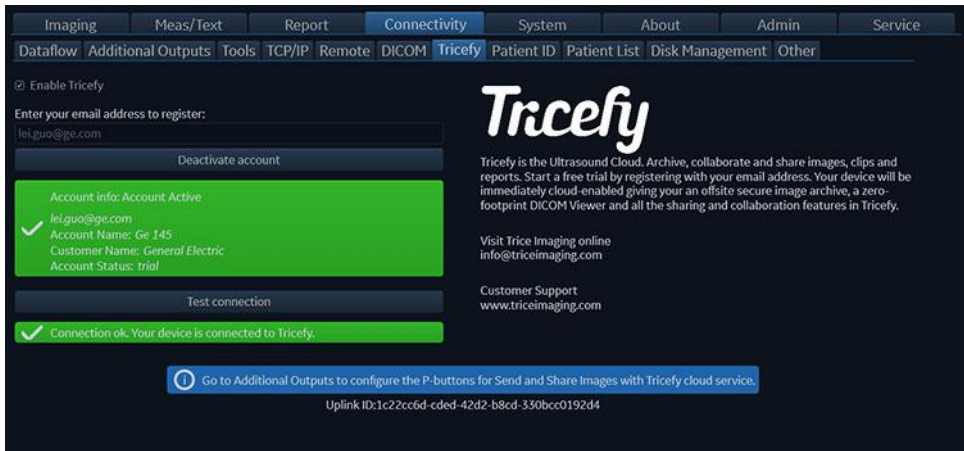

Figure 10-45. The Tricefy Screen
3. Select the **Connectivity** category and the **Tricefy** subgroup. The *Tricefy* screen is displayed (see Figure 10-45).
- After the account is successfully registered, press the **Test Connection** button. The account information is displayed, indicating account name, customer name and account status (see Figure 10-45).